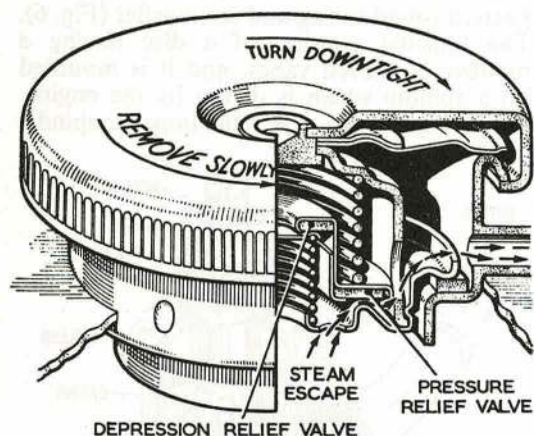
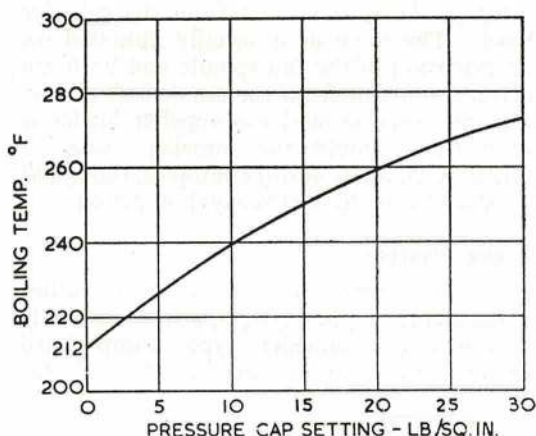

Fig. 7. PRESSURE COOLING RADIATOR CAP
Fig. 8. WATER BOILING TEMPERATURE
12. A pressure cooling system is one that is sealed to allow pressure to build up inside, and thus increase the boiling point of the water. A pressure radiator cap (Fig. 7) is used, and a valve in the cap prevents the system from venting to atmosphere until a predetermined pressure has built up. The degree to which a system needs to be pressurized depends upon the climatic and atmospheric conditions in which the engine is operating. At high altitudes, the boiling temperature of water in a normal atmospheric system is appreciably reduced, but by pressurizing the system it is increased, the increase being dependent upon the pressure in the system (Fig. 8).